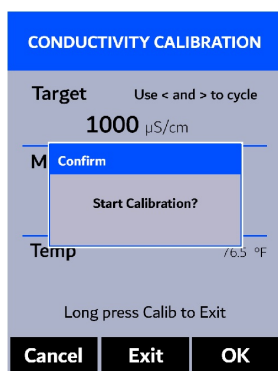

Figure 16.
8. The display updates as shown in Figure 16 and the user can choose one of three options: